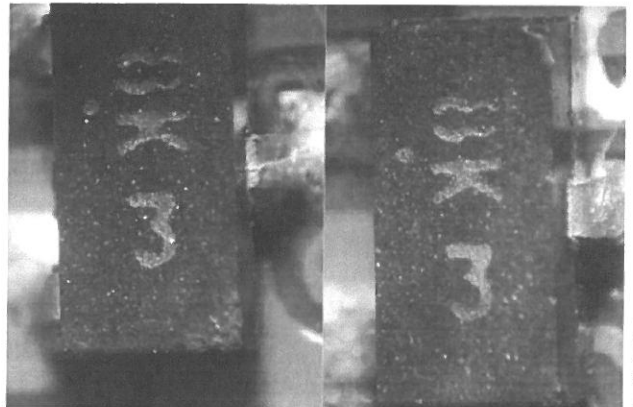

Figure 9-25
- Burned, charred components (the charred surface on a component has black, dark brown appearance due to excessive heat), Figure 9-25.